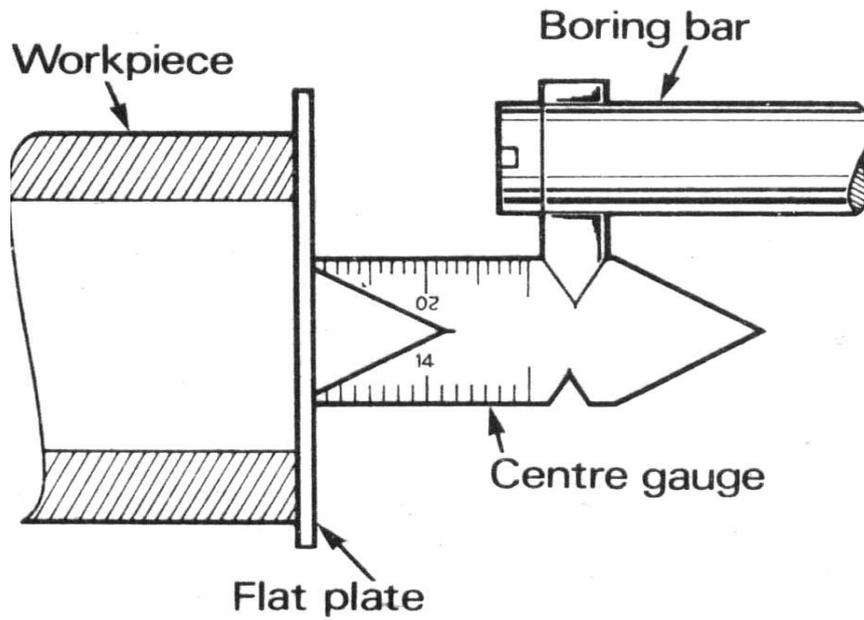

Figure52. Squaring the cutting tool with a center gauge
Figure 52 illustrates the case where the zero on the vernier scale does not line up with a graduation on the main scale. In this case the procedure for finding the correct reading is as follows.
- Look along the main scale and determine the smaller of the two graduations that most closely line up with the zero on the vernier scale. In the example above (Figure52) the zero on the vernier scale lies between 20 and 21 on the main scale. The correct main scale reading to use is therefore 20.